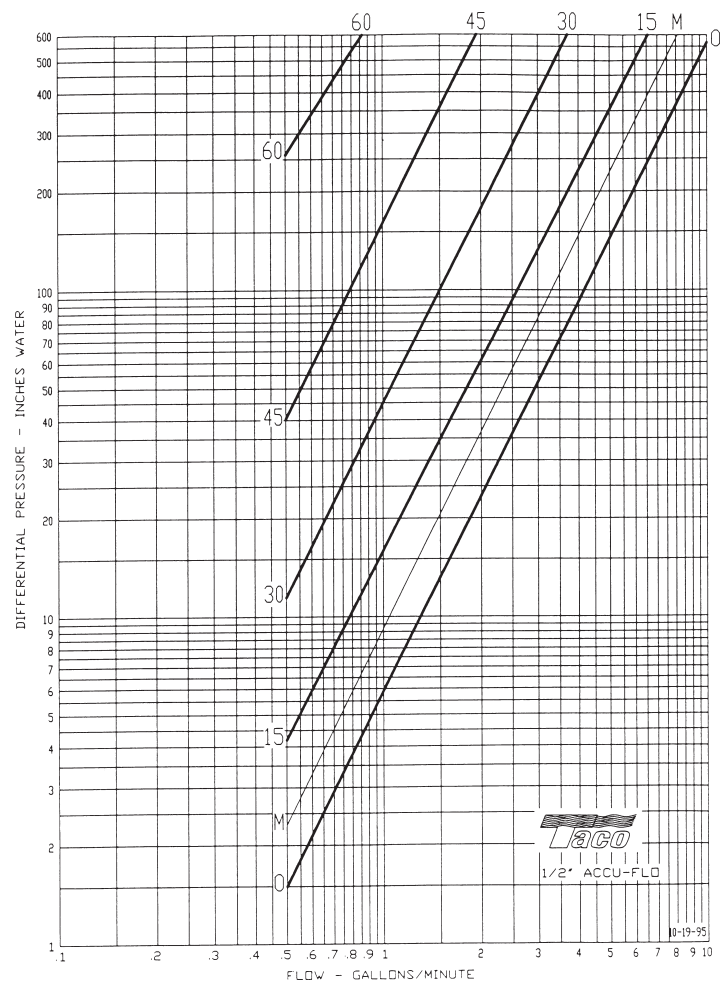

Figure 19. Setting the manual circuit setter valve, differential pressure vs. flow.
2. For presetting, use the appropriate valve curve shown in Figure 19 on page 30 to determine which setting is necessary to achieve the appropriate pressure drop.